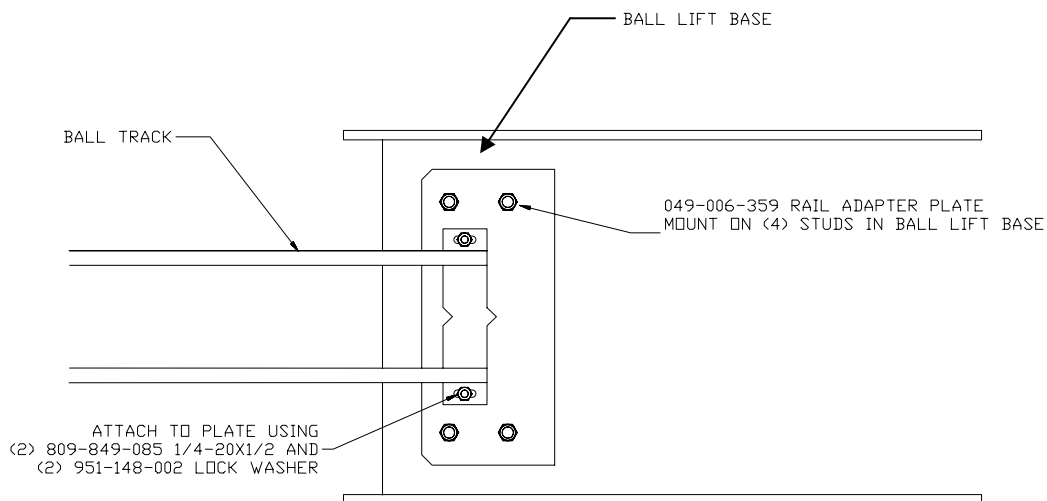

Figure 6, Track to Lift Connection
5. If not installed earlier, attach the rail adapter plate (049-006-359), which is included with the underlane track, to the end of the underlane track using two 1/4 lock washers (951-148-002) and 1/4-20 x 1/2 hex screws (809-849-085) (See Figure 6). Tighten securely.
20. Secure the adapter plate on the end of the underlane track to the Ball Lift base plate studs using four 11/32-inch inner diameter flat washers (948-722-111) and 5/16-18 nylon insert lock nuts (839-057-002) as shown in Figure 6. Track alignment is critical for the smooth transition of the ball to the Lift. Adjust the track as necessary to ensure that the track is centered between the Ball Lift side plates. Shim the adapter plate as needed to obtain a smooth, level track joint.